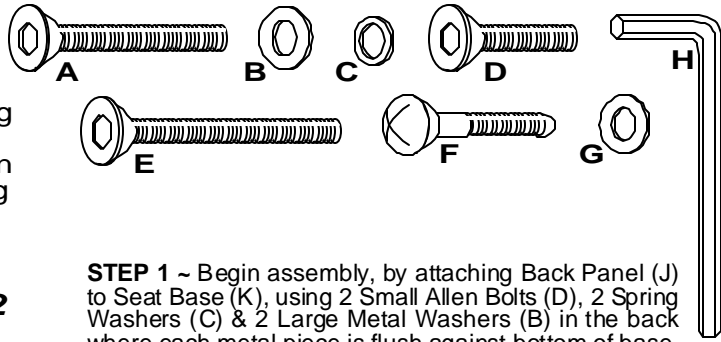

FIGURE 1
STEP 1 ~ Begin assembly, by attaching Back Panel (J) to Seat Base (K), using 2 Small Allen Bolts (D), 2 Spring Washers (C) & 2 Large Metal Washers (B) in the back where each metal piece is flush against bottom of base. Also, use 2 Long Allen Bolts (E), 2 Spring Washers (C) & 2 Small Metal Washers (B) from the inside of the seat base. Tighten all bolts. See Figure 1.
STEP 2 ~ Next, attach both Leg Panels (L) by crossing them between each other, and attach Top Inner Ring (M) to inside of each panel using 1 Medium Allen Bolt (A), 1 Spring Washer (C) & 1 Small Metal Washer (B) per each leg. Only hand tighten bolts for this step. See Figure 1.